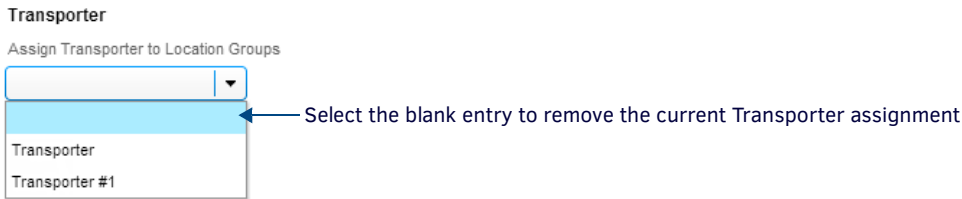

FIG. 437 Transporter Assignments page - Transporter menu
- 2. In the *Transporters* menu, select the blank entry at the top of the list (FIG. 437):